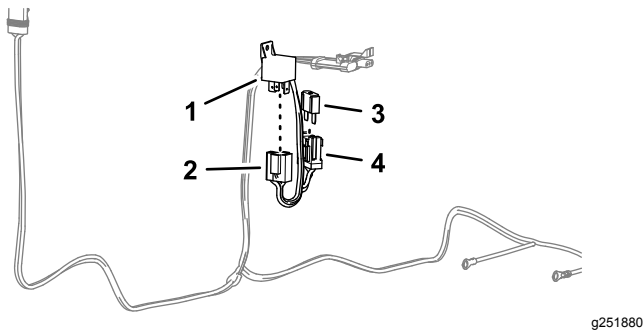

Figure 7
- Assemble the relay into the 4-contact connector of the power harness (Figure 7).
- Insert the fuse (60 A) into the socket of the fuse-holder for the power harness (Figure 7).